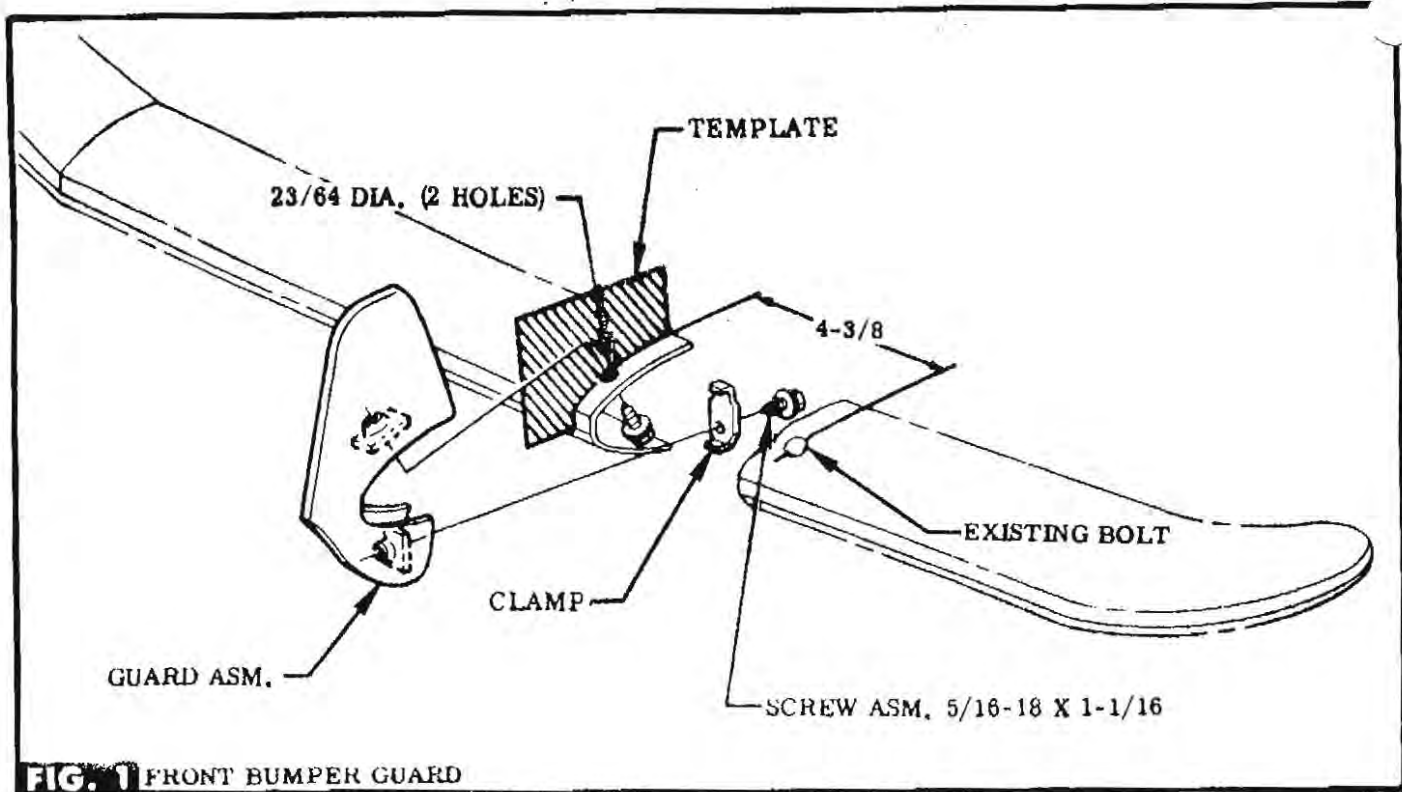
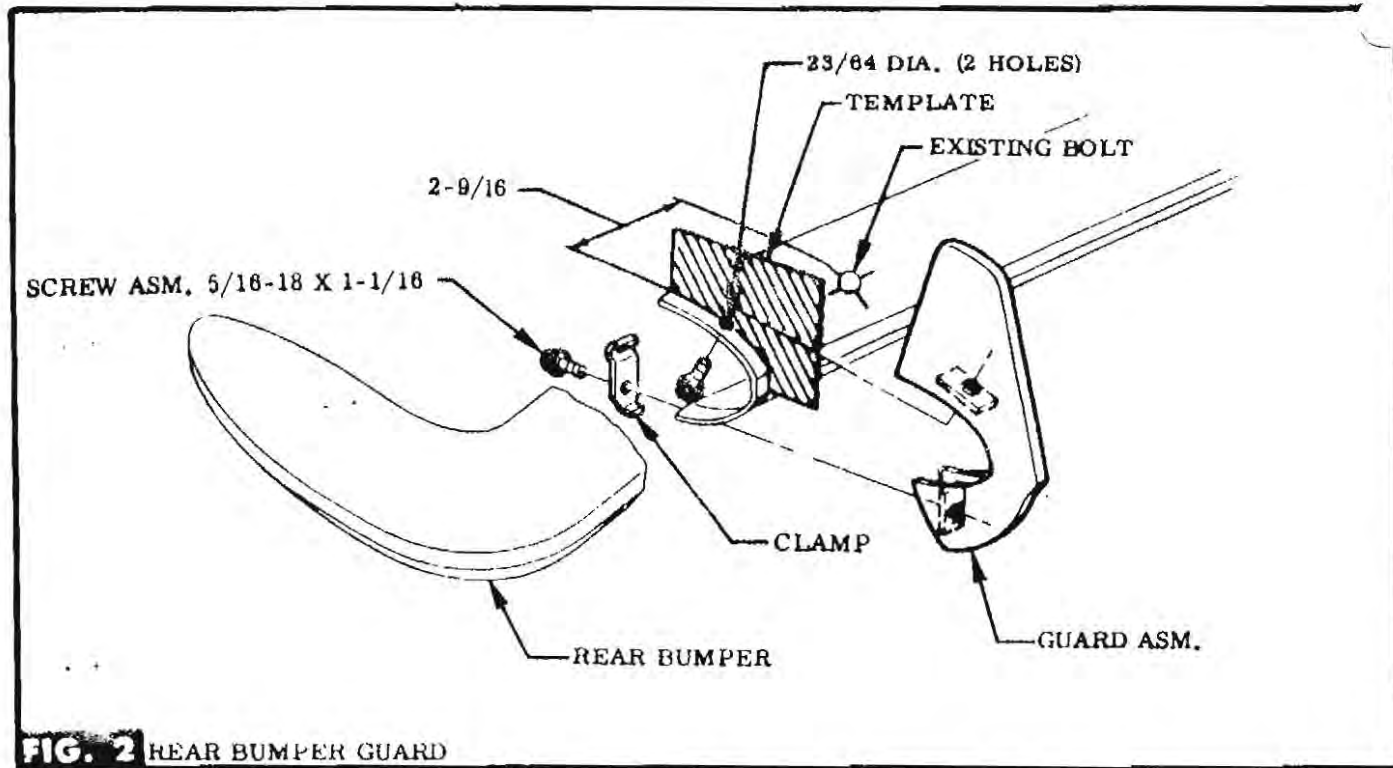

FIG. 1 FRONT BUMPER GUARD
FIG. 2 REAR BUMPER GUARD
STEP 1 USING TEMPLATE, LOCATE, CENTER-PUNCH & DRILL HOLES IN BUMPER. SEE FIG. 1 OR FIG. 2.
WITH ATTACHING PARTS. PROGRESSIVELY TIGHTEN UNTIL BEST FIT IS OBTAINED. SEE FIG. 1 OR FIG. 2.